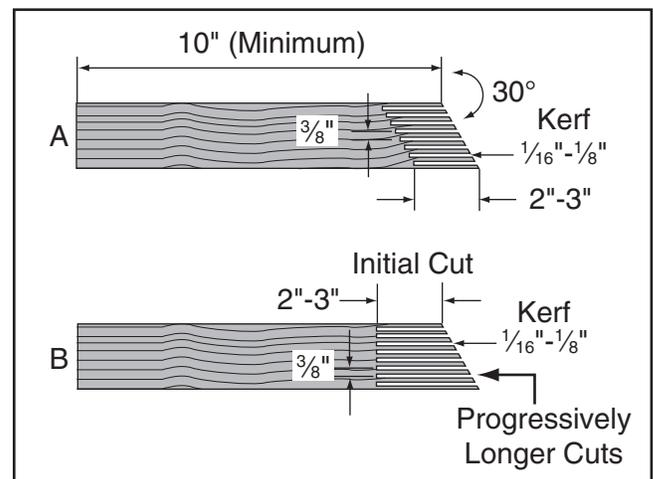

Figure 73. Patterns for featherboards (top view shown).
3. Make a series of end cuts with the grain $\frac{3}{8}$ "– $\frac{1}{4}$ " apart and 2"–3" long, as shown in **Figure 73 (A)**. Alternatively, start cuts at 2"–3" deep, then make them progressively deeper, as shown in **Figure 73 (B)**. Cuts made across the grain will result in weak fingers that will easily break.